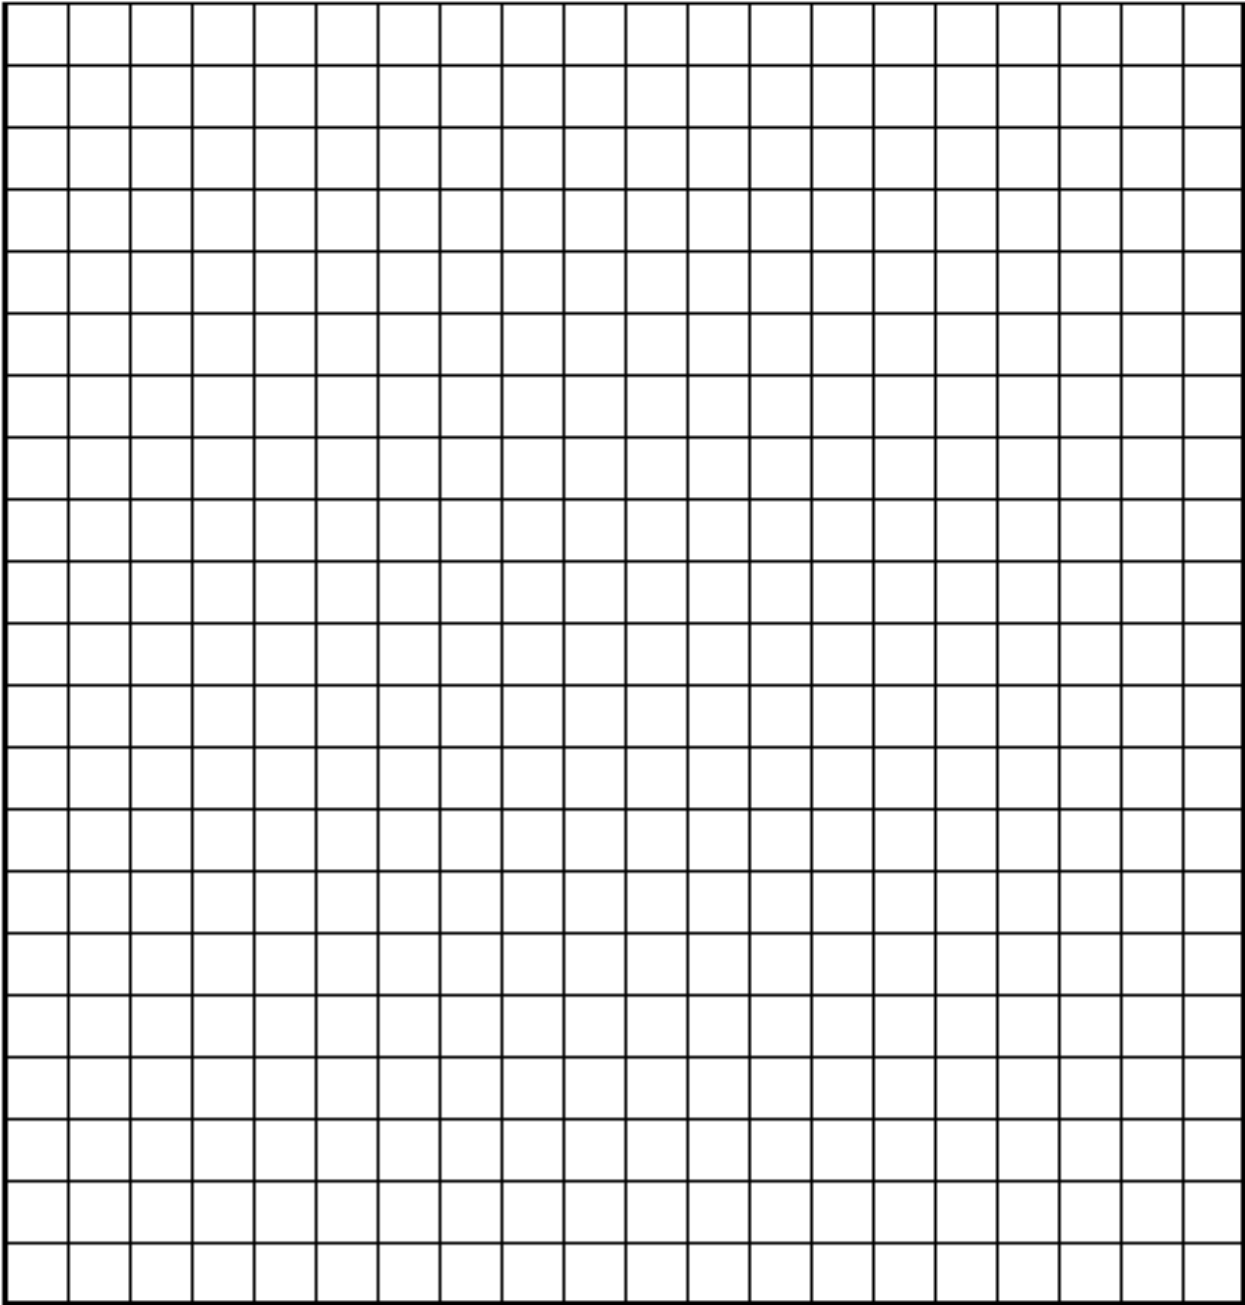

Figure 3. Force versus Vertical Deflection.
6. On the provided graph (Figure 3), label the horizontal axis as "Force (N)" and the vertical axis as "Vertical Deflection (cm)." Plot the angle of incidence as a function of added mass.
7. On the same graph (Figure 3), use a different color to plot the expected vertical deflections for a given force. How do the expected values compare with the observed values? Do your numbers make sense? Why or why not?